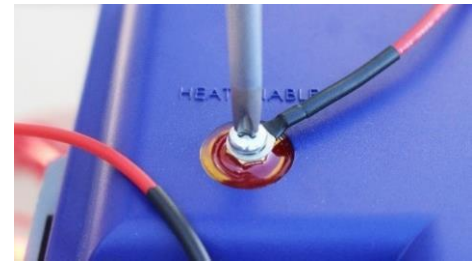

Figure 13: #8 ring terminal onto the heater enable post
9. Install the #8 ring terminal onto the heat-enable post and tighten it down firmly to engage the internal teeth. Inspect the connection to see if vibration could cause it to come loose. See Figure 13.